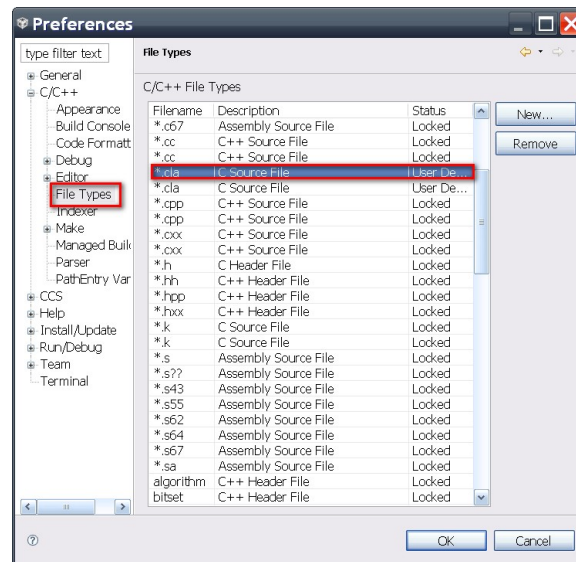

Figure 5.3: Configuring CCS5 to recognize the `.cla` extension
4. In the drop down menu select C source file(see Fig. 5.3).